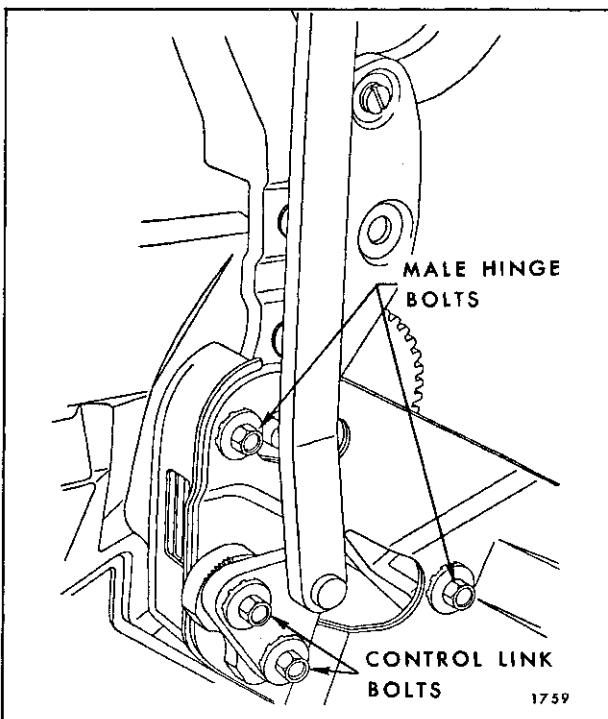

Fig. 13-86—Male Hinge Adjustment
1. To tighten or increase locking action, turn lock hook clockwise (Fig. 13-86).
- a. Loosen two bolts securing control link adjusting plate sufficiently to permit adjustment of plate (Fig. 13-86).
- c. Loosen male hinge assembly and control link attaching bolts (Fig. 13-86).
- b. Loosen male hinge assembly and control link attaching bolts (Fig. 13-86).